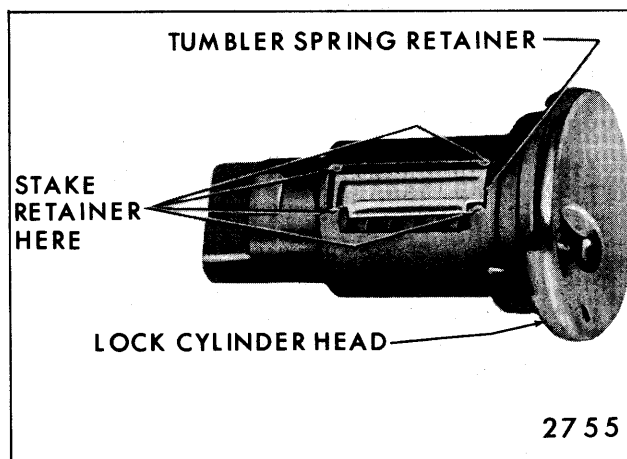

Fig. 1-7—Installing Spring Retainer
4. Insert the spring retainer so that the two end prongs slide into the slots at either end of the cylinder. Press the retainer down. (See Fig. 1-7)
7. Using a suitable staking tool, stake the spring retainer securely in place by staking the cylinder metal over the retainer at each end. Refer to Figure 1-7.